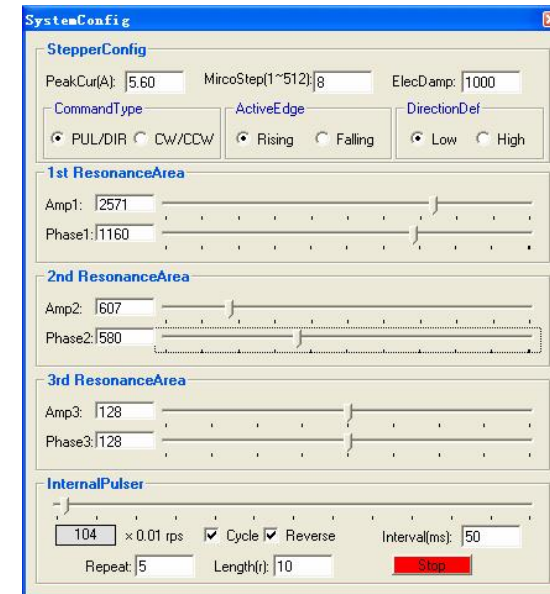

Figure 26: Anti-resonance tuning
**Step 1:** Start the motion test by clicking **Start/Stop** button. Find an resonance speed by slightly moving the slider bar of internal pulse generator back and forth. See Figure 26.